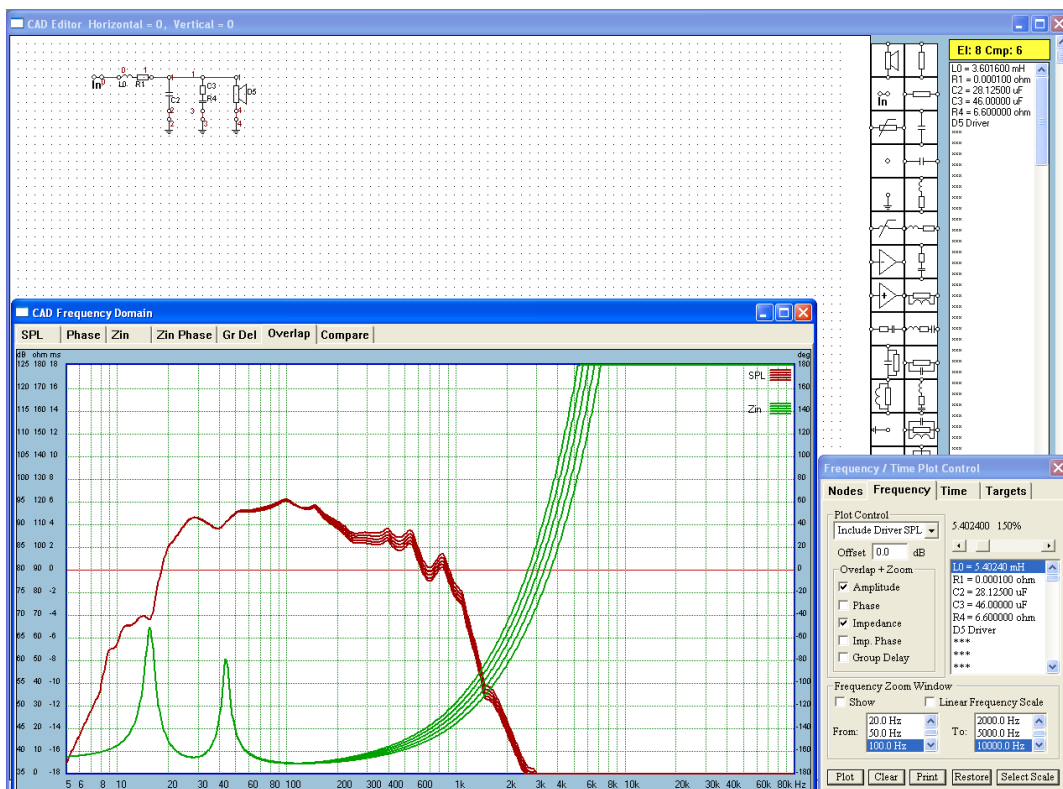

Figure 8.35. Example of “Tweaking” components using “Adjust” function.
In order to facilitate a shortcut to component value entry, we have implemented “Adjust” function. The function is accessed from a list box located on the “**Frequency/Time Domain Plot Control**” Tab – see Figure 8.35. The dialogue box allows you to manually adjust the value of the selected component **within 1% - 100%** of its original value. All five curves: (1) Amplitude, (2) Phase, (3) Impedance, (4) Impedance Phase and (5) Group delay curves can be nominated to be displayed while the selected component is being tweaked. Finally, a “Clear” function is also provided to clear congested screen.